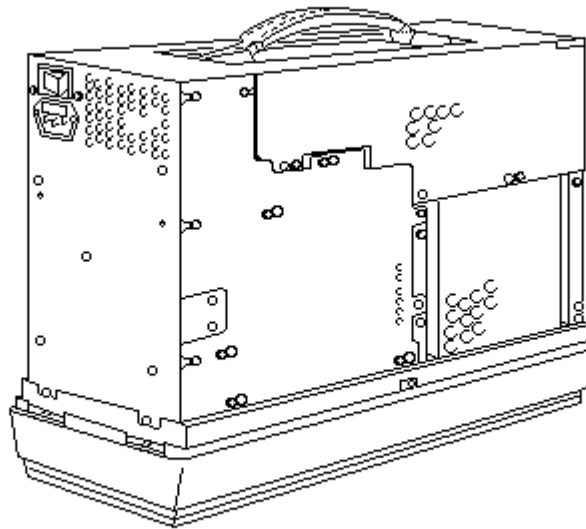

Figure 7-13. Placing the Computer in an Upward Position
3. Lift the rear portion of the computer so that it rests firmly on the front bezel (Figure 7-13).